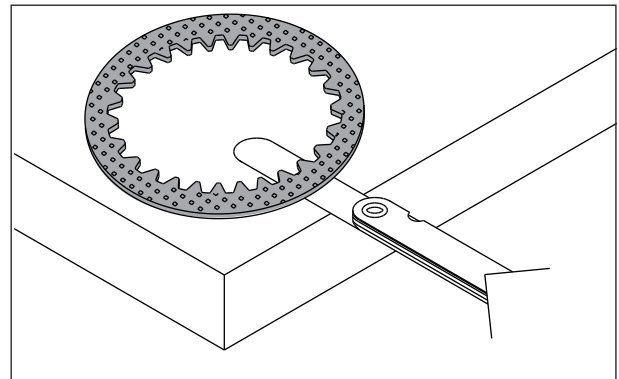

Fig. 3.18
- Inspect the plates clutch driven for distortion using a feeler gauge as shown. (Fig. 3.18)